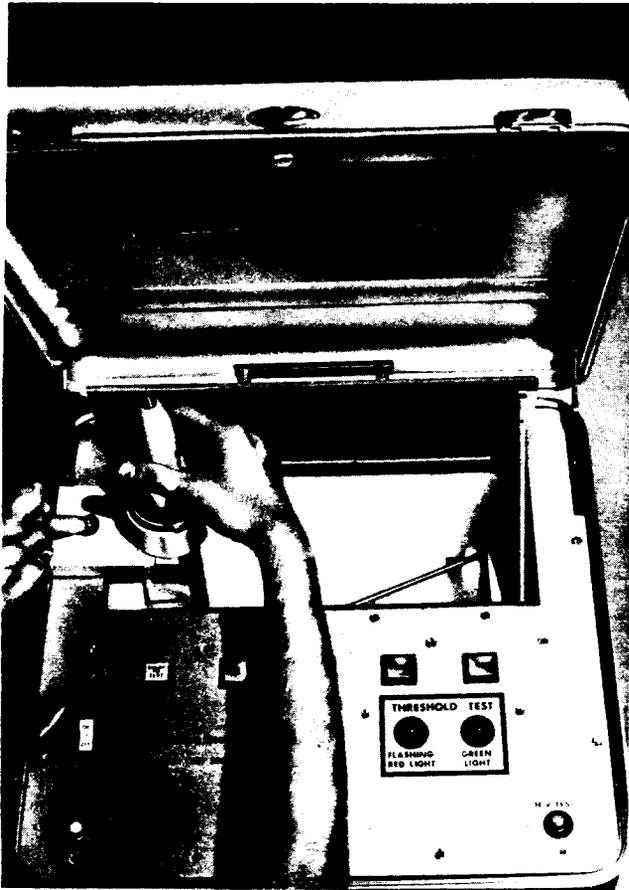

Fig. 4—188A Inserted Into Socket
5. Insert the 188A test set, handle first, into the probe socket so the entire handle, up to the flash guard, is inside the socket (Fig. 4).